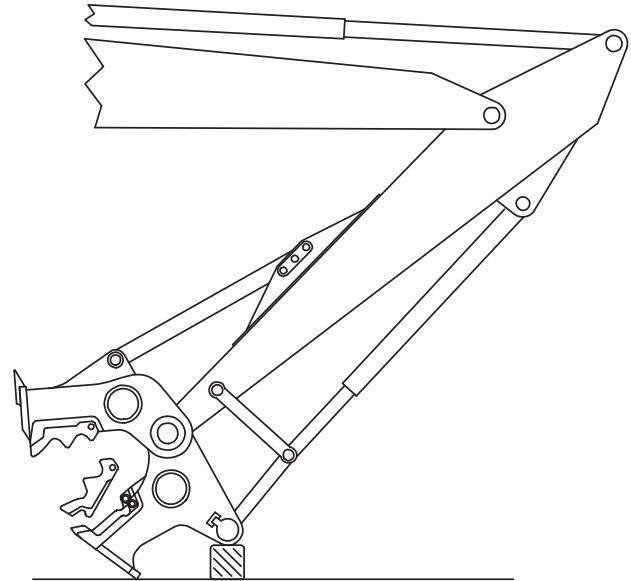

FIGURE 5-2
1. To change the teeth on the upper jaw, curl the attachment under and set it down on a firm and level surface with the jaws open (figure 5-2). Turn the base machine off. Make sure that the attachment and jaws are stable and will not drop or close. Block up if necessary.
2. Work only on the upper jaw with the pulverizer in this position (figure 5-2). With the teeth facing up, their weight will be properly supported when the pins are removed.